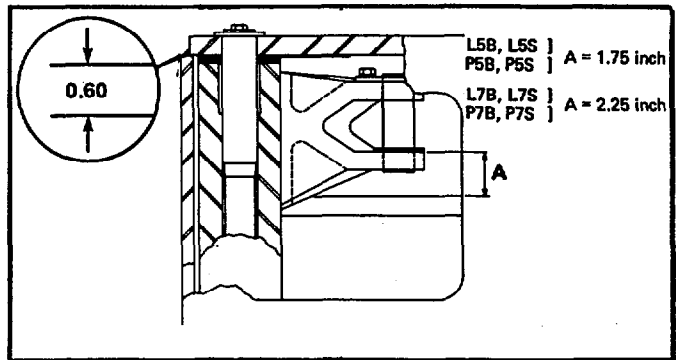

Figure 4. Pantograph Tolerances
- The following tolerances must be met on reassembly by properly shimming the primary pivot points. See Figure 4.